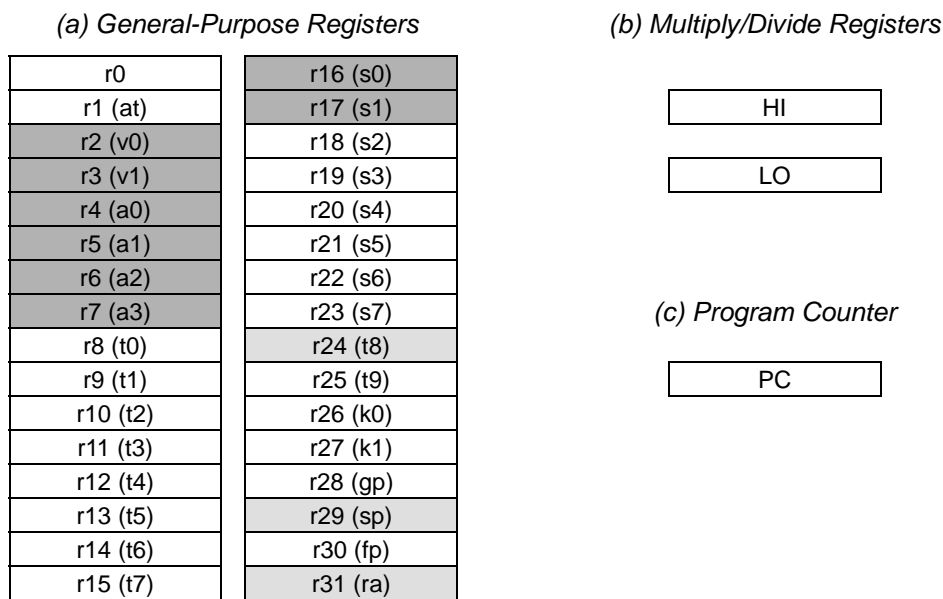

Figure 2-5 CPU Registers
Figure 2-5 shows the CPU registers. The TX19 has 32 general-purpose registers, a program counter (PC) register and two special registers (HI/LO) that hold the results of integer multiply and divide operations. All CPU registers are 32 bits in length.
The 32-bit ISA instructions can use any of the 32 general-purpose registers shown in Figure 2-5. The general registers are numbered from r0 to r31. The general registers except r0 have symbol names (software names) like at, v0-v1, a0-a3, and so on which are used by an assembler. The 32-bit ISA instructions treat the general registers symmetrically, with the exception of r0 and r31. r0 is hardwired to a value of 0. As such, r0 can be used by any instruction as a target register when the result of an operation is to be discarded or as a source register when a zero value is necessary. r31 (ra: return address) is the link register used by Jump-and-Link, Branch-and-Link and Branch-Likely-and-Link instructions. These instructions store an address at which processing resumes after a subroutine has been executed.